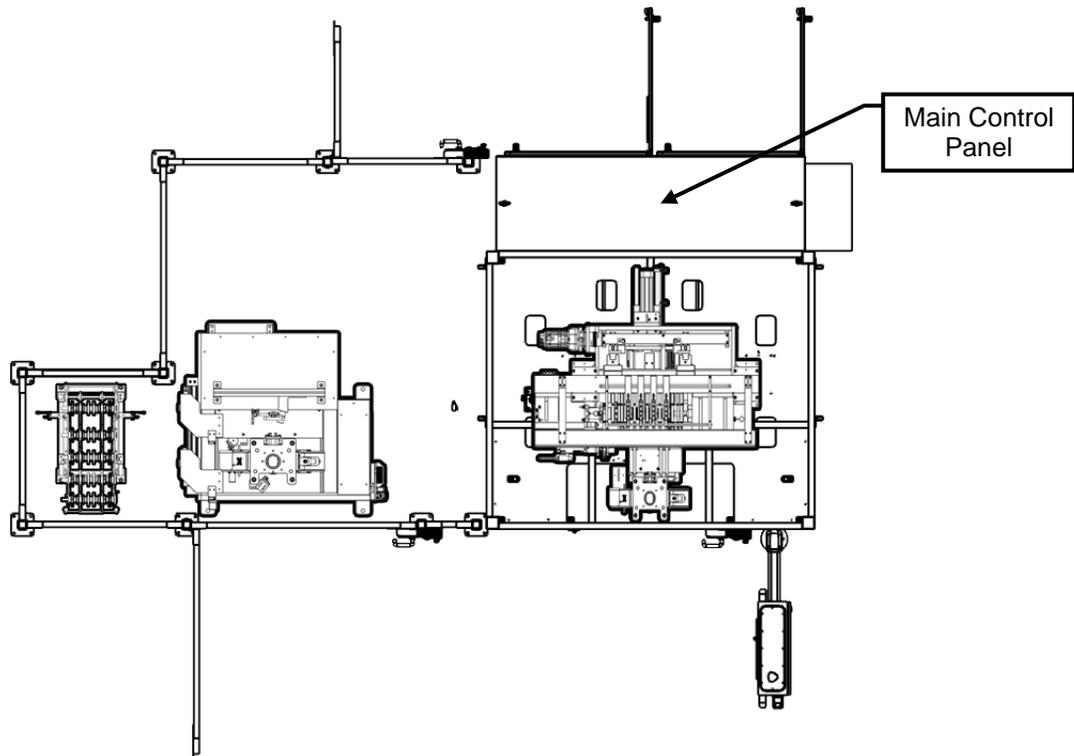

Figure 4-1: Main Control Panel Location
| Figure 4-1: Main Control Panel Location | 4-6 |
There is one (1) Master Control Panel (MCP) located on the M2006021 OP178 machine. The MCP receives 480VAC 3-phase 60 Hz power supplied from the plant control bus electrical drop. The MCP location is shown in Figure 4-1 below.